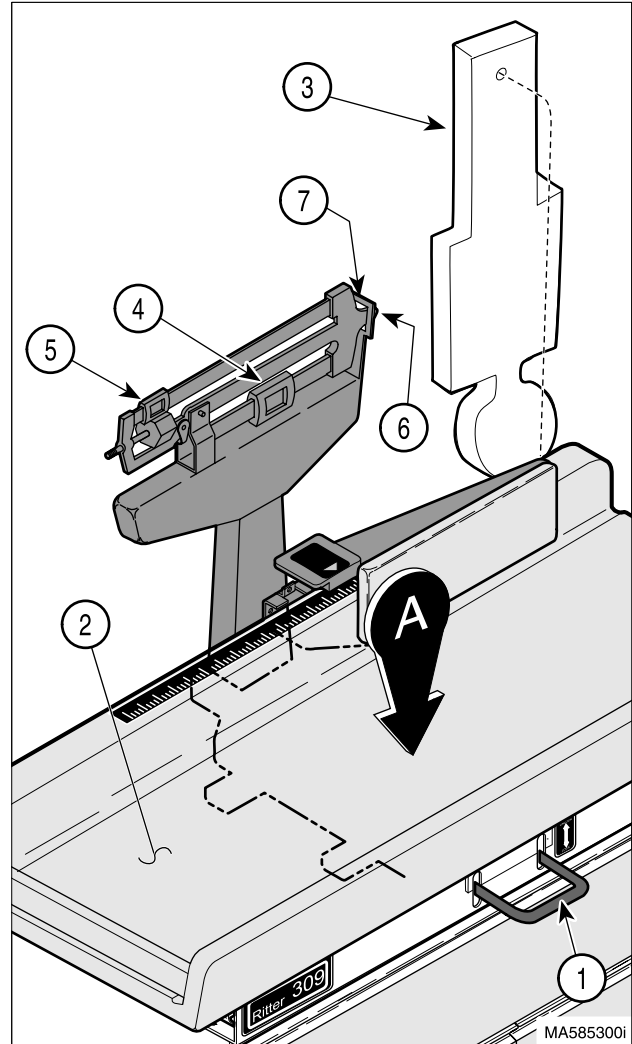

Figure 4-3. Scale Calibration
- (1) Move table top locking handle (1, Figure 4-3) to UNLOCK position.
- (2) Remove any items from upholstered table top (2).
- (3) Push down on center of upholstered table top (A) a few times to align and exercise all internal parts.
- (4) Perform zero balance adjustment (Refer to para 4.3).